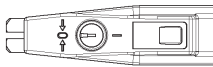

Fig. 2
- 7.6. In order to prevent a fire hazard after completion of the soldering operations, the lockout device¹⁰ must be turned back to position "0" (see Fig. 2). The device is now secured against inadvertent operation.